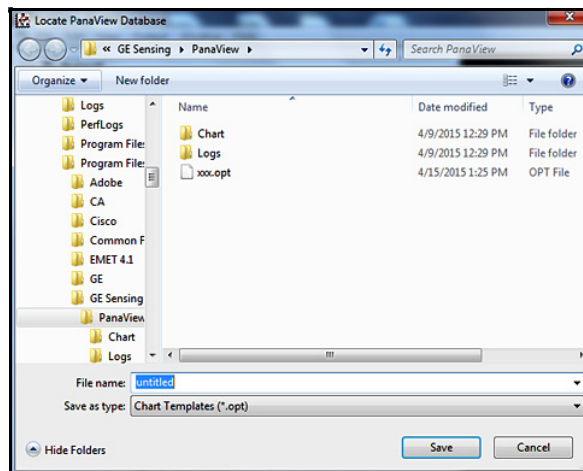

Figure 67: The Save Output Template Dialog Box
- Click the "Save Output Template" option to save the current graph properties and parameters as a template for future graphs. When the dialog box in Figure 67 below opens, enter a name for the chart (graph) template file and click the [Save] button to save the file as: